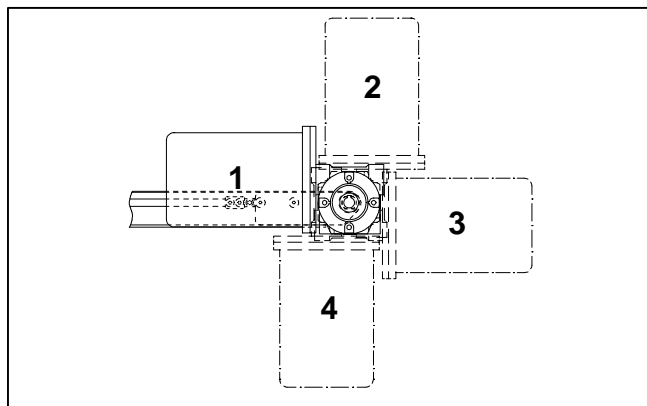
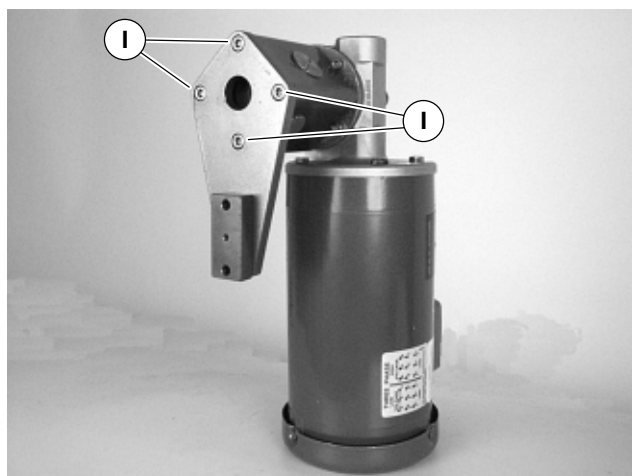

Figure 3
Figure 4
NOTE: Gearmotor may be operated in positions 1, 2, 3 or 4 (Figure 3).
2. If required, change gearmotor position by removing four (4) screws (I of Figure 4). Rotate gearmotor to other position (Figure 3) and replace screws (I). Tighten to 12 Nm.